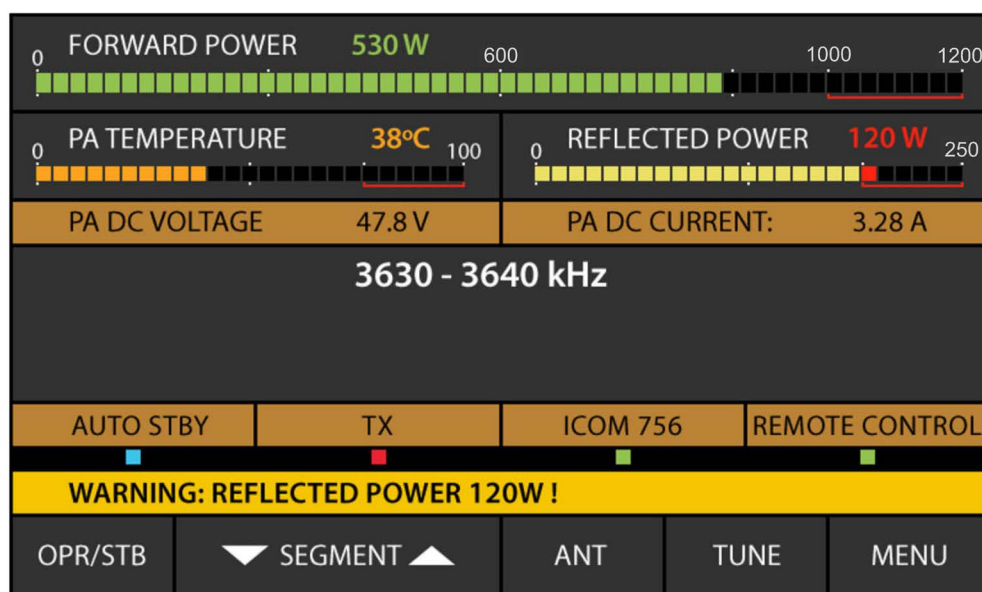
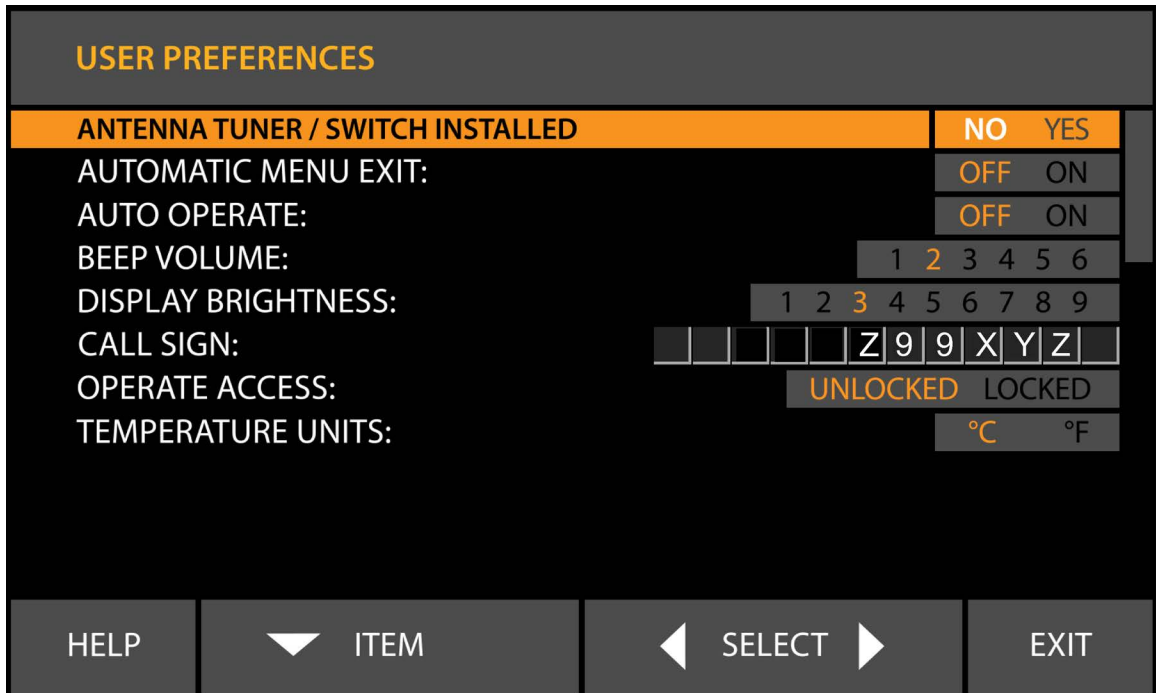

Fig. 4-1 – Appearance of an alarm message
Fig. 5-4 – Menu USER PREFERENCES
- c) **AUTO OPERATE** option can be turned on/off by the operator in the USER PREFERENCES menu – S. 5-4 and Fig. 5-4 - or by a remote control command.
In the event a parameter maximum is exceeded, the amplifier will assess the risk and will trigger one of the three levels of protection, as described in items (a) to (c) below. Every event is accompanied by a warning text on the screen (Fig. 4-1). A sound alarm will be also produced, if set on in the “USER PREFERENCES”– fig. 5-4.
- a) The first protection level is WARNING. When a value watched by the control unit approaches the protection threshold, the transmission is not interrupted, but a message appears – for example “Drive Power too High”, “Drain Current too High”, or another – Fig. 4-1.